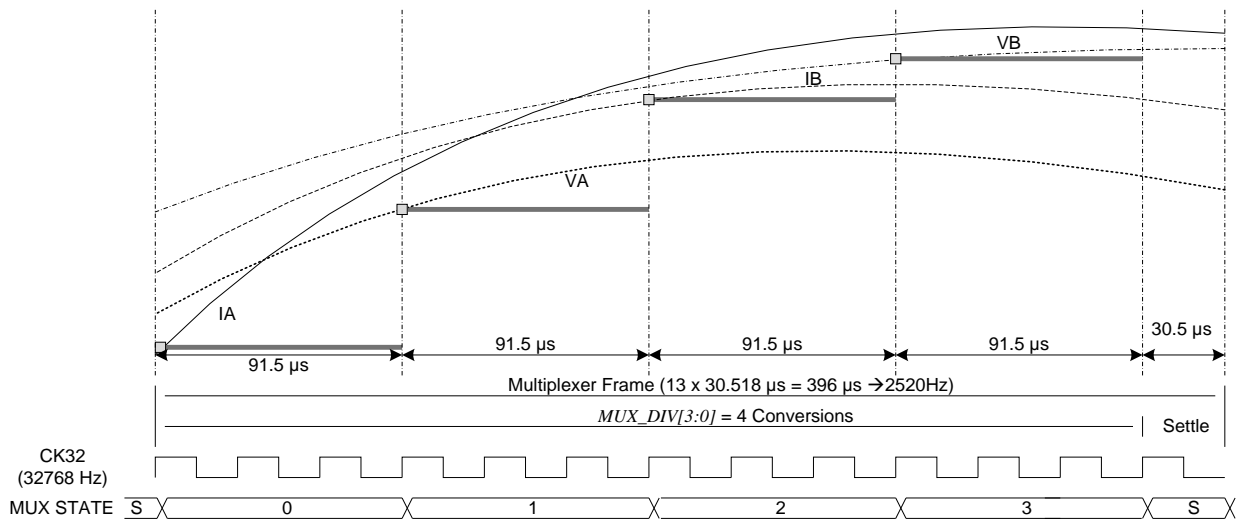

Figure 15: Samples from Multiplexer Cycle ($MUX_DIV[3:0] = 4$)
Referring to Figure 15, the 71M6542F/G features an additional voltage input (VB) permitting the implementation of a two-phase meter. As with VA, the VB voltage divider is directly connected to the 71M6542F/G and uses the ADC and multiplexer facilities in the 71M6542F/G. $MUX_DIV[3:0] = 4$ configures the multiplexer to provide an additional time slot to accommodate the additional VB voltage sample. As with the 71M6541D/F/G, IA samples are obtained from a current sensor that is directly connected to the 71M6542F/G, while IB samples may be obtained from a directly connected CT or a remotely connected shunt using a 71M6x01 isolated device as seen in Figure 2 and Figure 3.